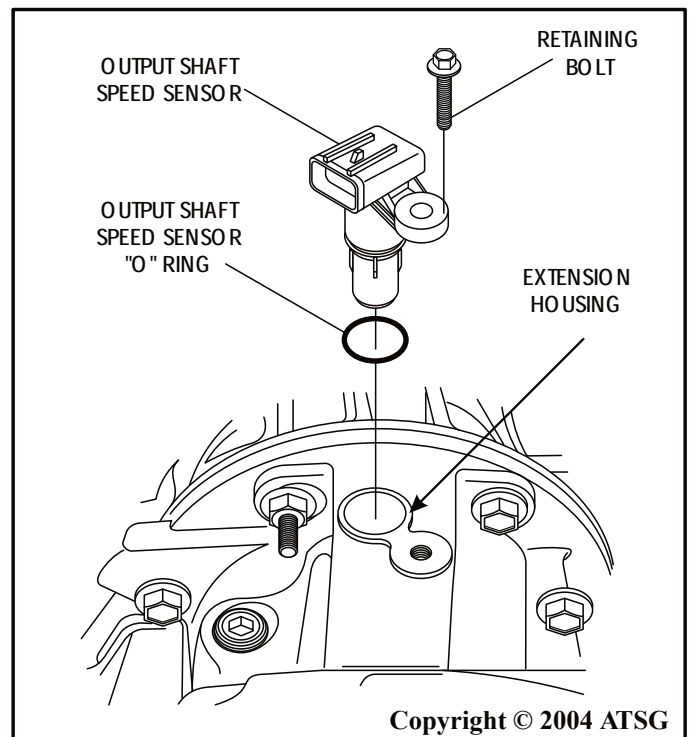

Figure 27
3. Remove the output shaft speed sensor from the extension housing, as shown in Figure 27.
4. Remove and discard the output shaft speed sensor "O" ring, as shown in Figure 27.